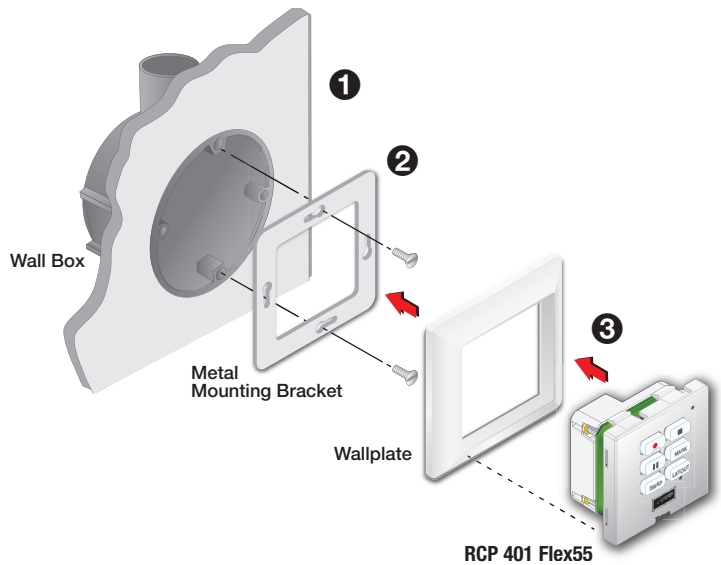
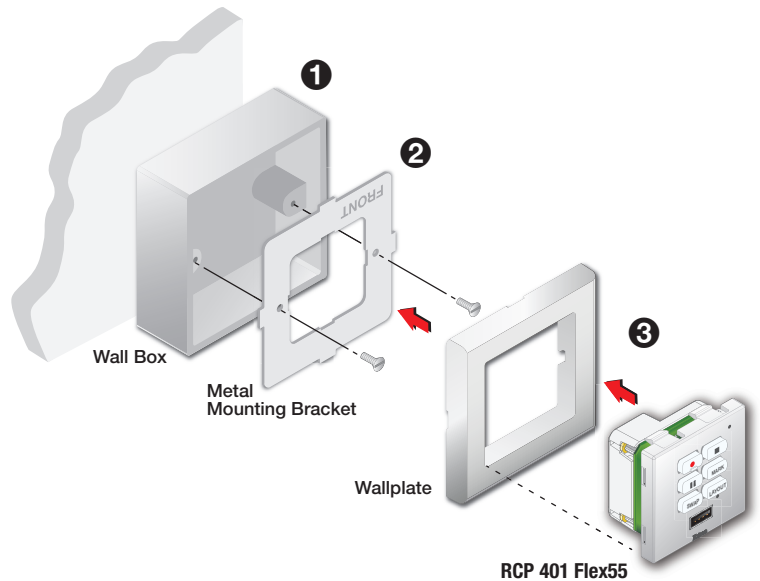

Figure 4. Mounting the RCP 401 EU
Figure 5. Mounting the RCP 401 MK
The RCP 401 EU (see figure 4) and RCP 401 MK (see figure 5) are mounted as follows:
4. If required, undo the two screws securing the metal mounting bracket to the wall box (figure 4, 2).